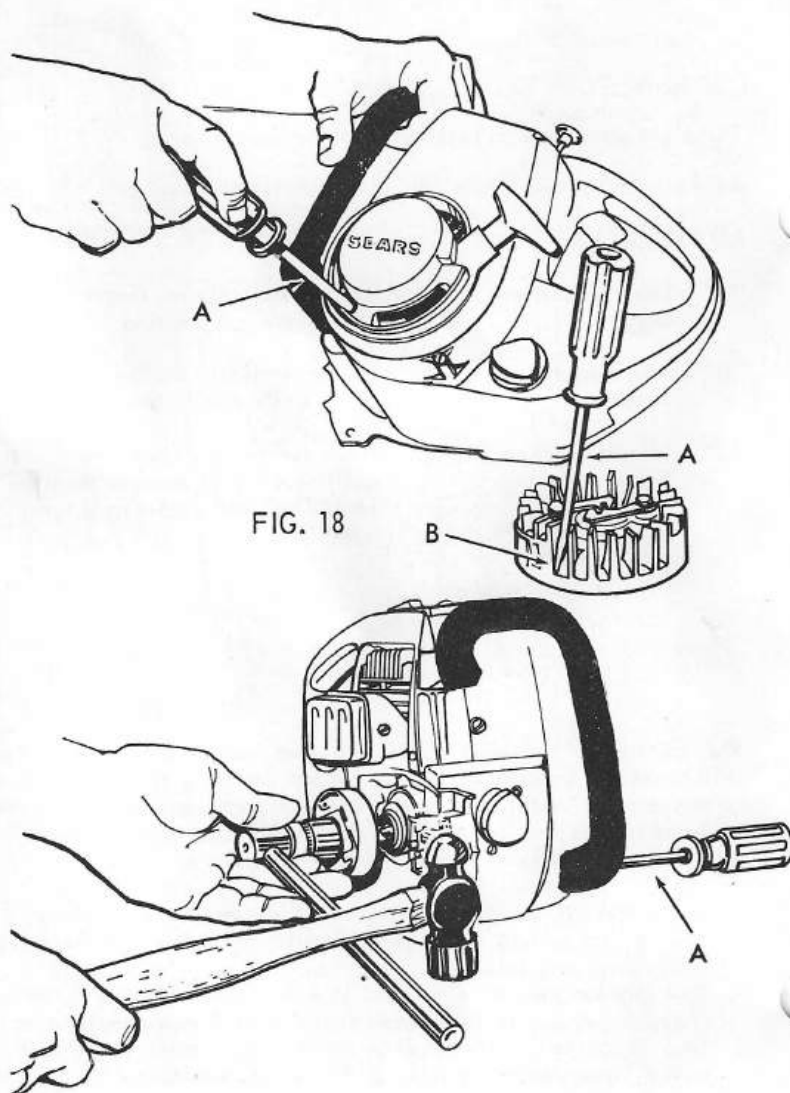

FIG. 18
The saw has a centrifugal clutch. With the engine idling properly, the clutch will not be engaged and the chain will not move. As you speed up the engine, the clutch engages. If the chain is caught in a pinch or bind, the engine speed will be reduced and the clutch will slip. Do not speed up the engine when the clutch is bound, as the clutch slippage will wear out the clutch. If clutch slips excessively replace clutch shoes. When the clutch will not disengage when the engine is idling, replace clutch springs. To replace clutch shoes or springs, position a screw driver (A) into starter housing air openings and into fins of flywheel as shown in figure 18 (screwdriver should be next to heavy section of flywheel (B) to prevent fin breakage). Place wrench on Hex Hub of clutch and turn clutch in a clockwise direction to unscrew clutch from engine shaft. Remove clutch drum and replace clutch on engine shaft or put in a vise to hold. Remove clutch springs with a needle nose pliers. By unhooking end of spring from hole in clutch shoes. Replace worn shoes or springs. There is a needle bearing in the clutch drum, and this bearing should be coated with a thin coat of grease (Lithium) once each season, or whenever bearing appears to need additional lubrication.